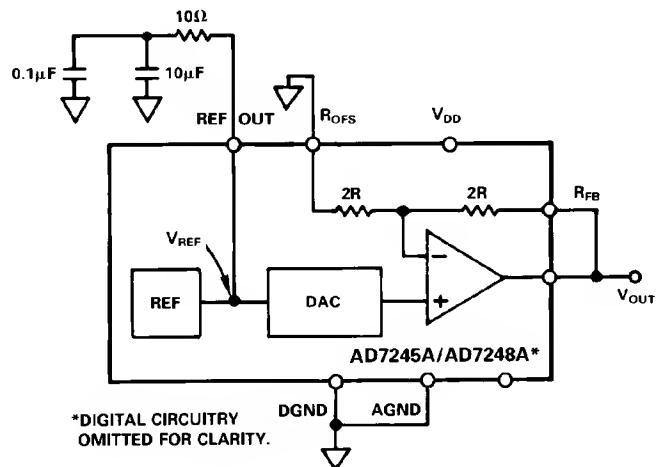

Figure 8. Unipolar (0 to +10 V) Configuration
*REFERENCE DECOUPLING COMPONENTS AS PER FIGURE 8
The first of the configurations provides an output voltage range of 0 V to +10 V. This is achieved by connecting the bipolar offset resistor, R_{OFS} , to AGND and connecting R_{FB} to V_{OUT} . In this configuration the AD 7245A/AD 7248A can be operated single supply ($V_{SS} = 0$ V = AGND). If dual supply performance is required, a V_{SS} of -12 V to -15 V should be applied. Figure 8 shows the connection diagram for unipolar operation while the table for output voltage versus the digital code in the DAC latch is shown in Table III.